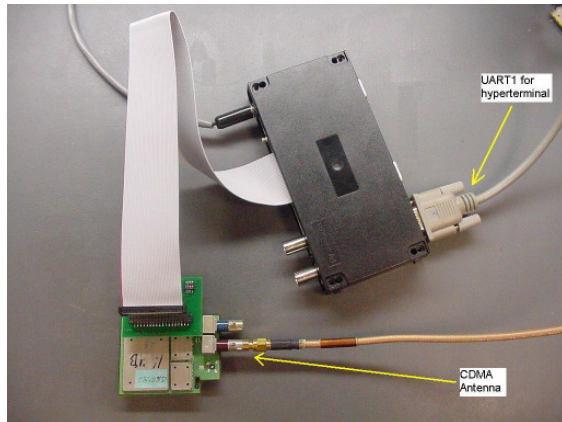

Fig. 5. Properly assembled CNAD3.0 set-up
- [4] Connect the adapter board to the NAD as indicated in Figure 5.
- [5] Connect the serial communication cable to the NIB as shown in Figure 5.